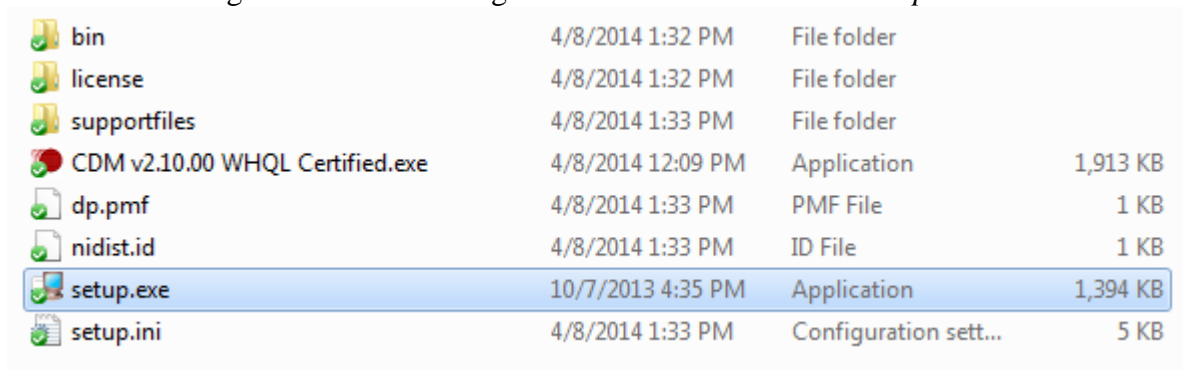

Figure 1. Setup Files
1.1 Locate installation files given as shown in Figure 1. Double left-click on *setup.exe*